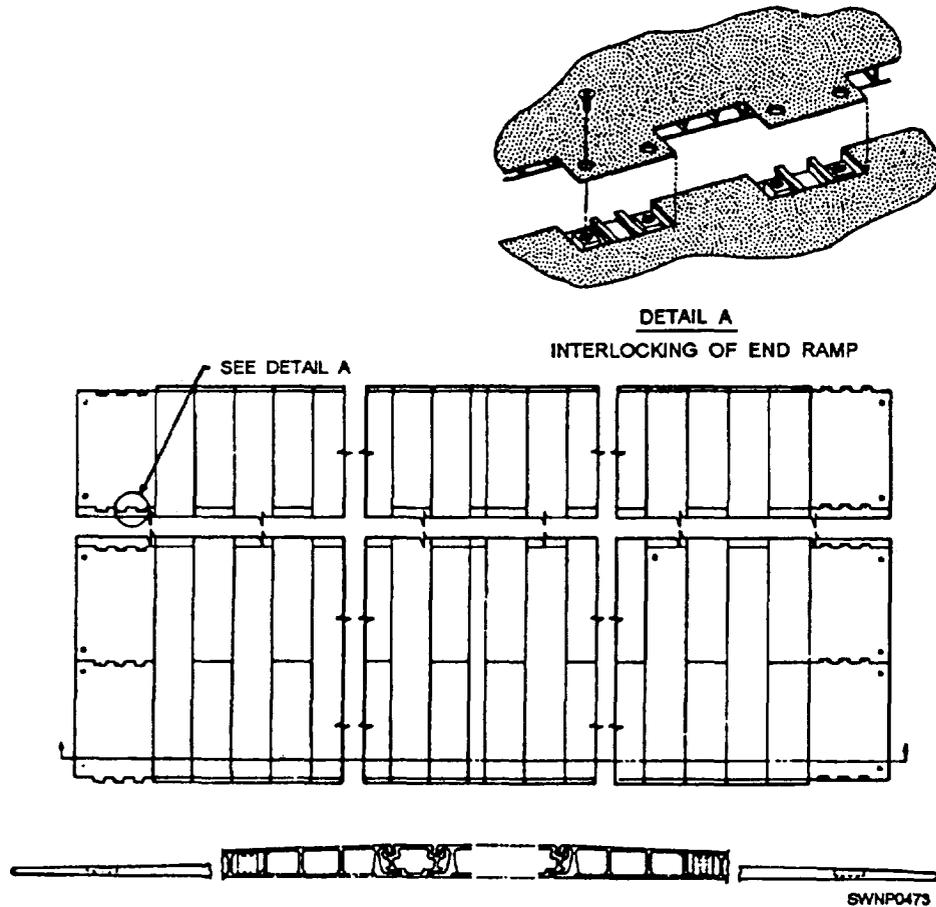

Figure 11-21.—Placement of mat end ramps.
4. Complete the end ramp installation, as shown in figure 11-21.